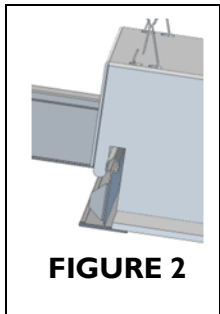
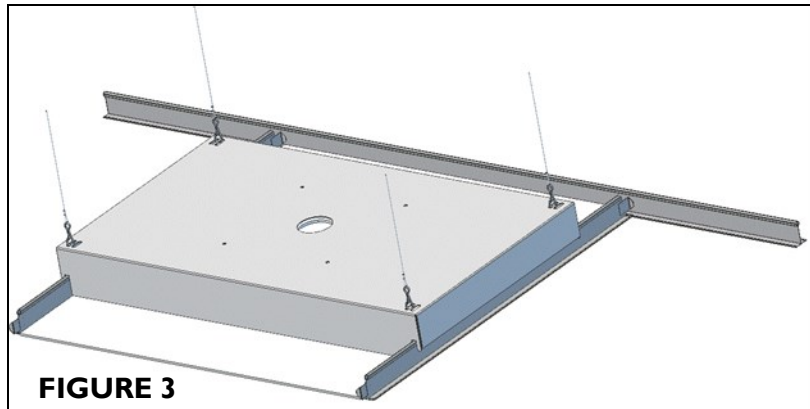

FIGURE 2
FIGURE 3
2. Remove Ceiling Tile Insert (D) and set aside.
4. Attach Ceiling Tile Support Plate (B) to ceiling tile grid, the tabs will slip down over the grid edge as seen in [FIGURE 2].
5. Attach the 4 safety tethers (A) to the red iron.
6. Mount the camera onto the Ceiling Tile Support Plate (B) using the included #8-32 x 1/2" screws (C) (See Camera Installation Instructions).
8. Lift camera/bracket assembly back off of the grid and drop in the ceiling tile insert, then replace assembly back on to the grid as seen in [FIGURE 3].